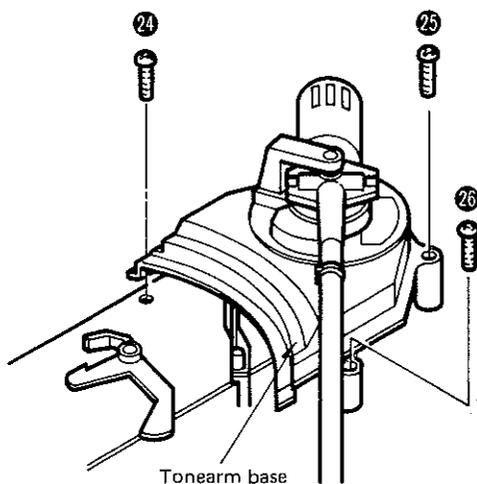

Fig. 7
2. Remove the 3 tonearm base setscrews (Fig. 7 : ⑳ ~ ㉒).